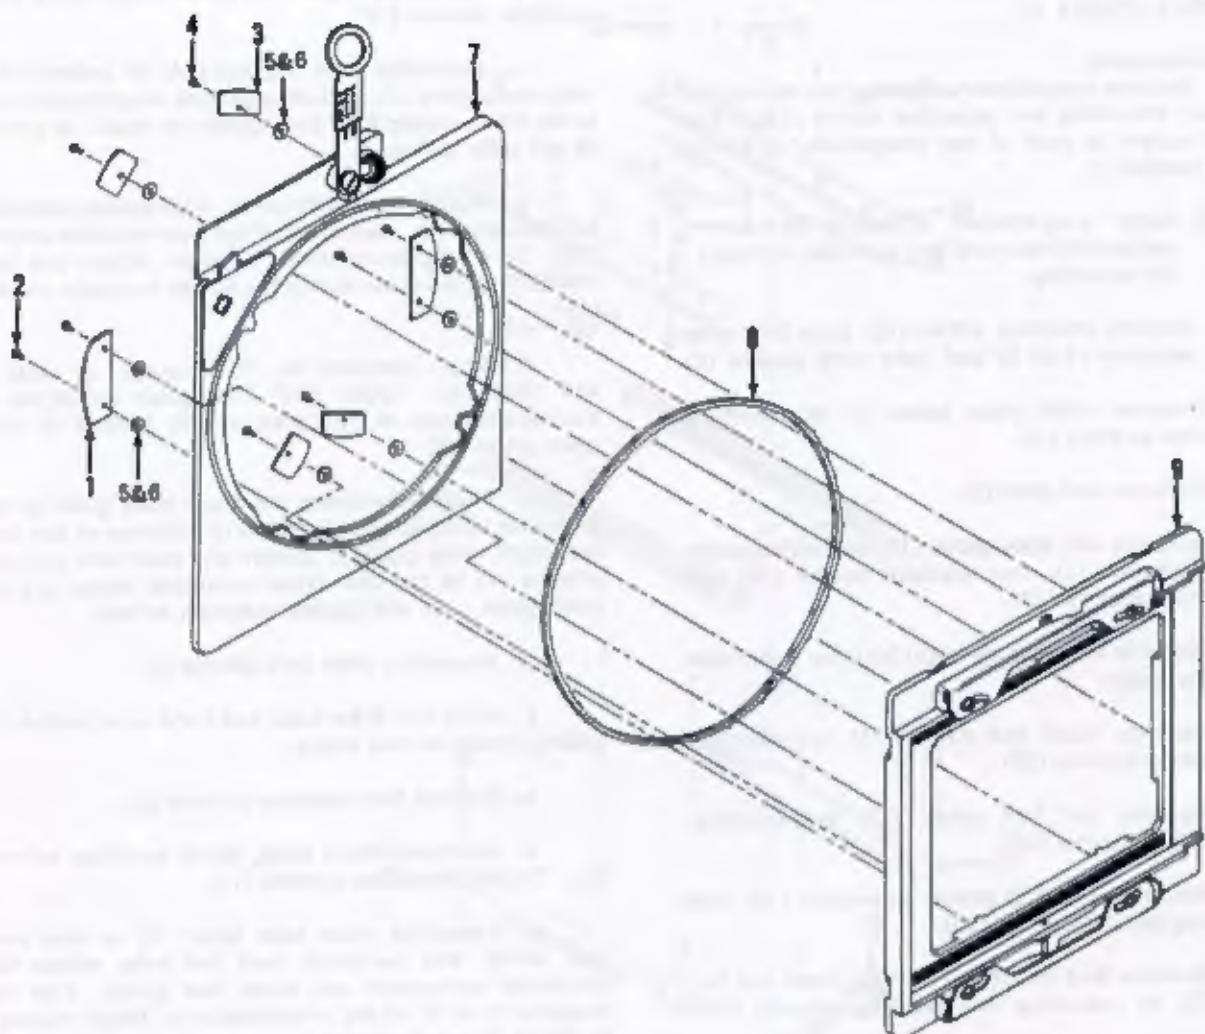
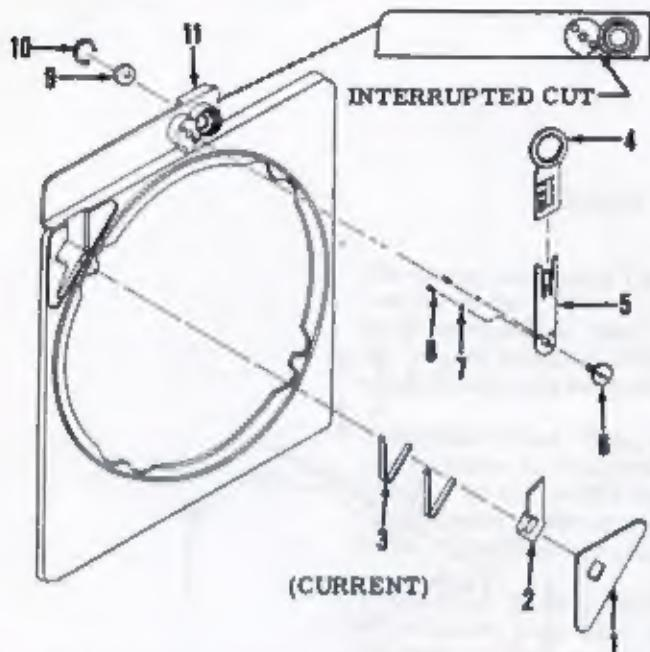
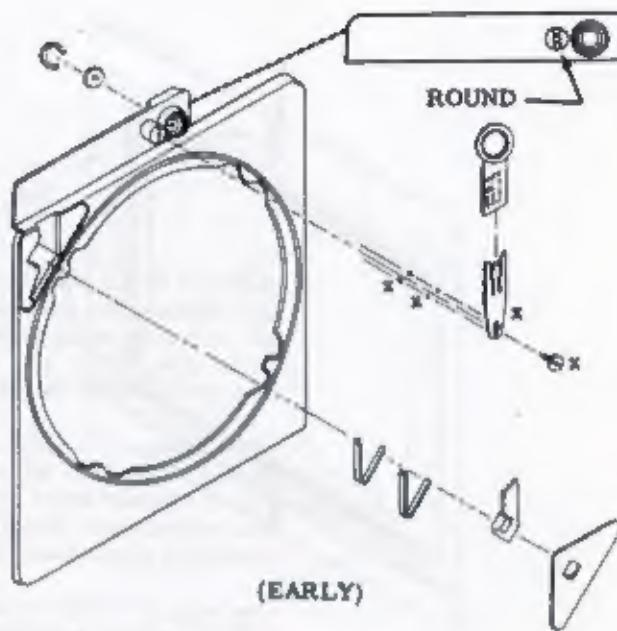

Figure 12. BACK ASSEMBLY
Figure 12A. STATIONARY FRAME COMPLETE
Figure 12B. STATIONARY FRAME COMPLETE
X. BACK ASSEMBLY - DISASSEMBLY AND REASSEMBLY (Figure 12)
a. Remove four machine screws (2), four machine screws (4), two retainers (1), four retainers (3), washers (5 & 6, used as required), and stationary frame complete (7). If disassembly of the stationary frame complete is necessary, see Par. X. 1.
b. Remove revolving ring (8) from grooved track of the revolving frame complete (9). If disassembly of the revolving frame complete is necessary, see Par. X. 2.
NOTE: A change has been made on the stationary frame as illustrated in figures 12, 12A & 12B. Disassembly and reassembly procedures remain the same. Items marked \times in figure 12B are not interchangeable with corresponding items in figure 12A. When ordering replacement parts, refer to the correct parts list.
X. 1. STATIONARY FRAME COMPLETE - DISASSEMBLY AND REASSEMBLY (Figure 12A)
a. Remove cemented release button cover (1). Remove release button (2) and two button springs (3) from cavity in stationary frame.
b. Remove peepsight assembly (4).
c. Remove peepsight carrier (5) by removing machine screw (6), two steel balls (7) and two carrier springs (8).
d. Remove rear window (9) from stationary frame assembly (11) by removing retaining ring (10).
a. Assemble rear window (9) and retaining ring (10) in stationary frame assembly (11).
b. Insert two carrier springs (8) into two small holes in boss of stationary frame for carrier peepsight mounting. Apply a light coat of Dow-Corning #44 Silicone grease to two steel balls (7) and place a ball over each carrier spring. Apply paraffin to two sides of peepsight carrier (5) and apply Neotube to underside of head of machine screw (6). Position peepsight carrier in place and secure with machine screw.
c. Assemble peepsight assembly (4) to peepsight carrier.
d. Assemble two button springs (3) in cavity of stationary frame. Apply a light coat of Dow-Corning #44 Silicone grease to release button (2) and position in place. Apply 3M 776 adhesive to area around cavity opening in stationary frame, keeping within .050 in. from edges of cavity. Assemble release button cover (1) and remove excess adhesive.